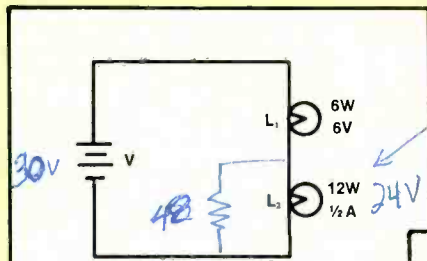

Figure 1.
- Show how you connect one resistor in the circuit of Figure 1 so that the rated current can flow through each filament. What is the resistance of the resistor?
- What battery voltage is required for the circuit of Figure 1?